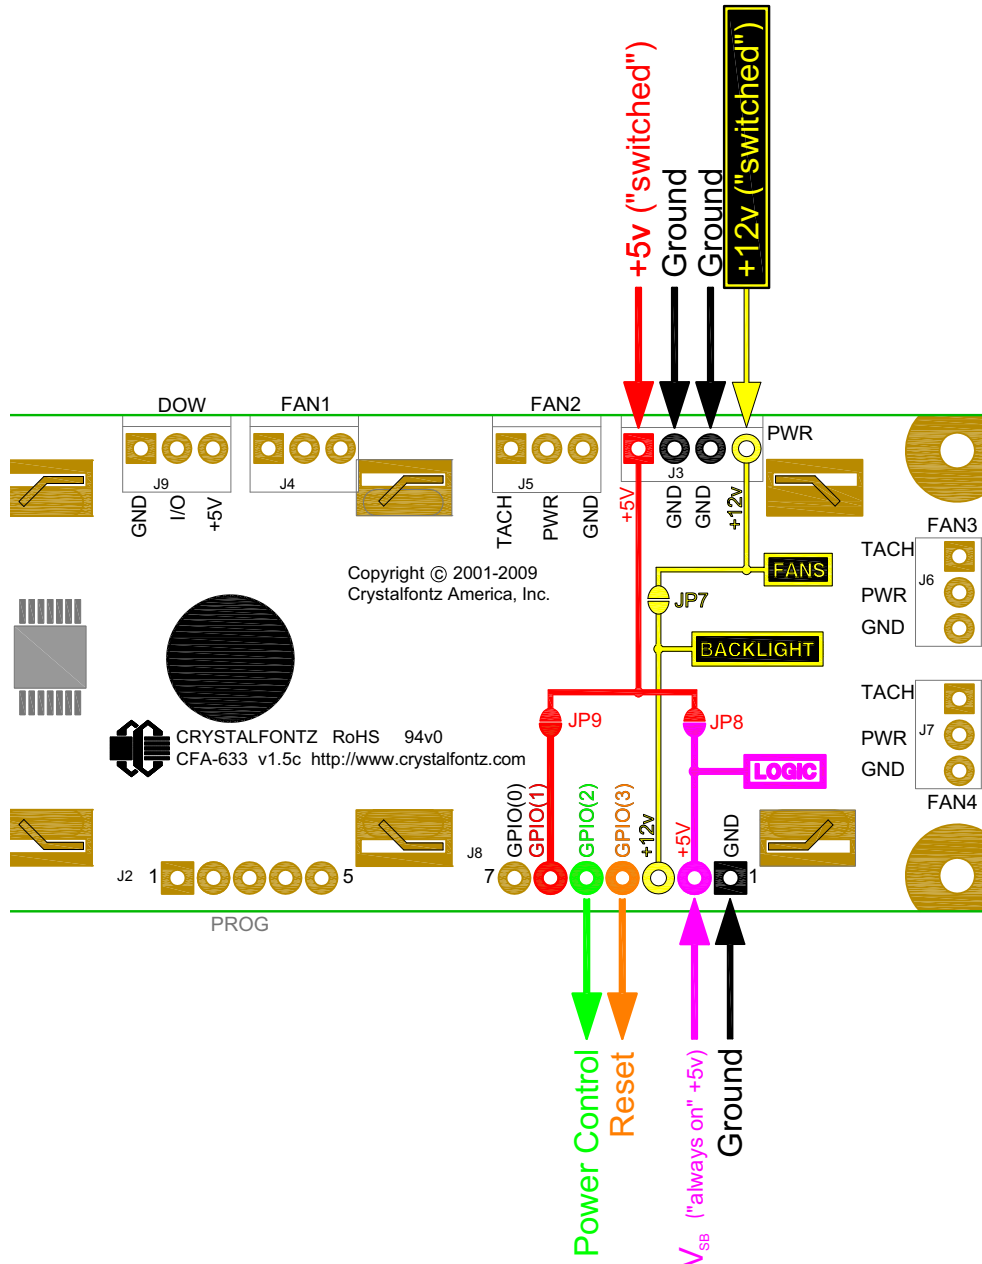

Figure 9. CFA633-TMC-KS ATX Power Supply and Control Connections
*JP7 must be opened for the operating range of +12v fans to be different from +12v backlights (listed in this table). If JP7 is closed (which is the factory default), then the voltage specification range for backlights must be observed for both backlights AND fans. Please see Figure 9. on Pg. 26 .